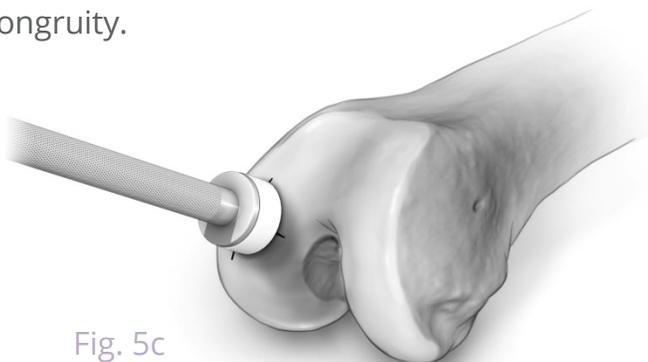

Fig. 5c
**Step 19:** The appropriate press fit reduction is accomplished by advancing the plug into the cavity with a tamp. Using a small mallet with the tamp, slowly push the plug into the condyle (Fig. 5c). Care should be taken to ensure that all edges advance equally. Remove any fragmentary cartilage around the perimeter of the reduced plug (Fig. 5d). Cycle knee to check congruity.